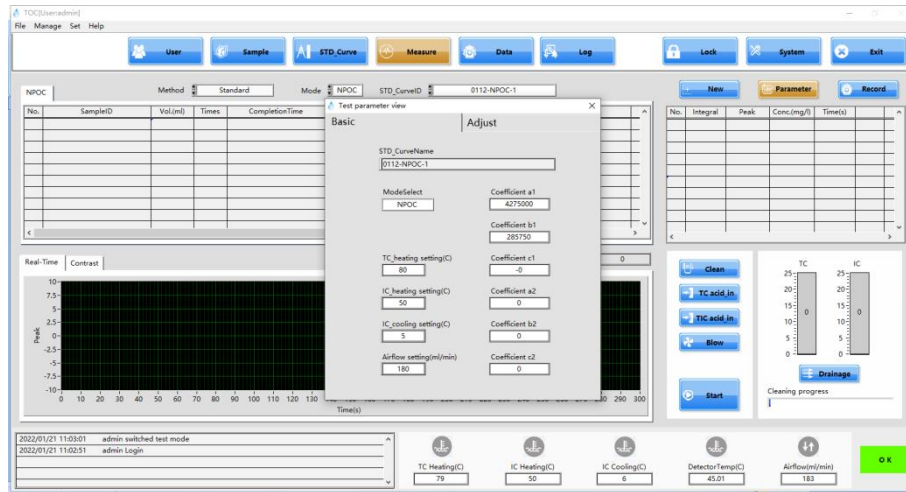

Fig 4.79
Step 1: Click **Measure**  to enter the sample test interface. The software automatically presents the line used in the last test and a pop-up window displays the basic parameters of the line (Fig. 4.79).